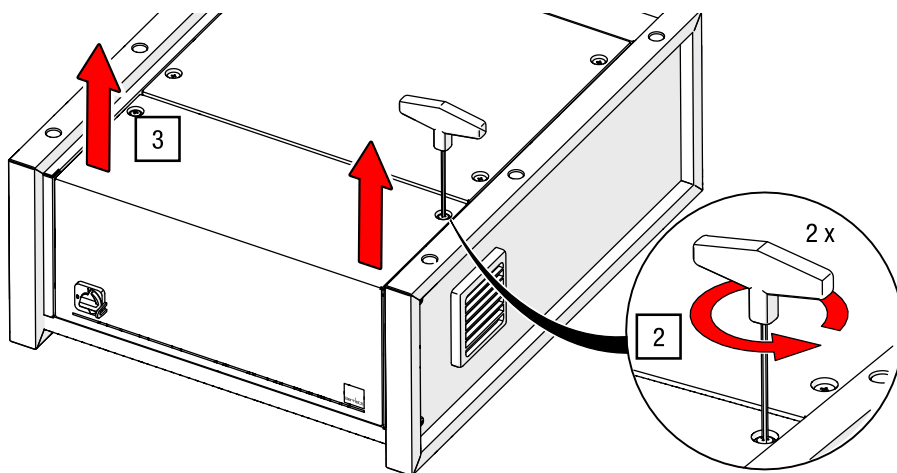

Fig. 16: Release and lift the control panel (control model may differ)
| G-FRAME control unit | <ul style="list-style-type: none"> <li>The control panel is mounted on the front of the horizontal control unit (see Fig. 16)</li> <li>The control unit is disconnected from the power supply.</li> </ul> |
- Loosen the control panel with the Allen key AF 3 on both sides (see Fig. 16).
- Lift the control panel from the control unit housing (see Fig. 16).